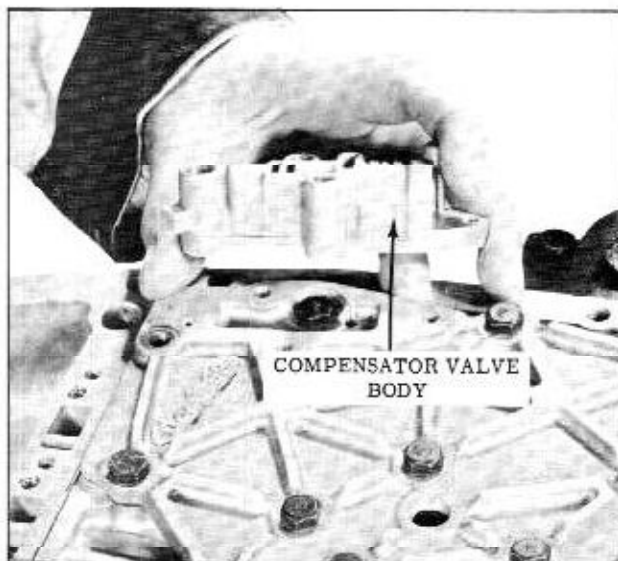

Fig. 3-131 Installing Compensator Body
14. Install compensator body assembly on accumulator cover using 3 screws and 1 bolt. (Fig. 3-131) Torque screws 2.5 to 3.5 ft. lbs. and torque bolt 6 to 8 ft. lbs.